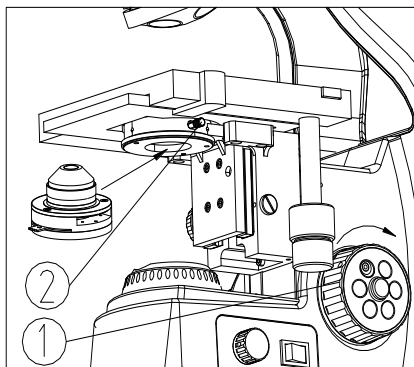

Fig.3
1. Rotate the coarse focusing knob ① according to the direction shown in the figure, to raise the stage to the highest position (see Fig.3).
2. Fully loosen the condenser lock-screw ②.
4. Tighten the condenser lock-screw ② of condenser, then raise the condenser with the up-down knob to the highest position.